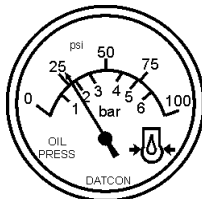

Figure 53. Oil Pressure Gauge
17. The engine oil pressure gauge (Figure 53) will indicate the oil pressure (kg/ cm²) of the engine. Under normal operating conditions the oil pressure is approximately 35~65 PSI.